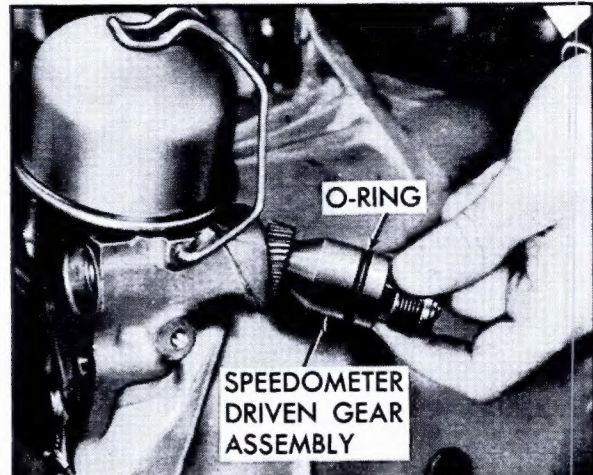

Fig. 7-227 Installing Speedometer Driven Gear Assembly
- b. Install speedometer housing and seal assembly and red nylon driver gear into transmission case, Fig. 7-227.